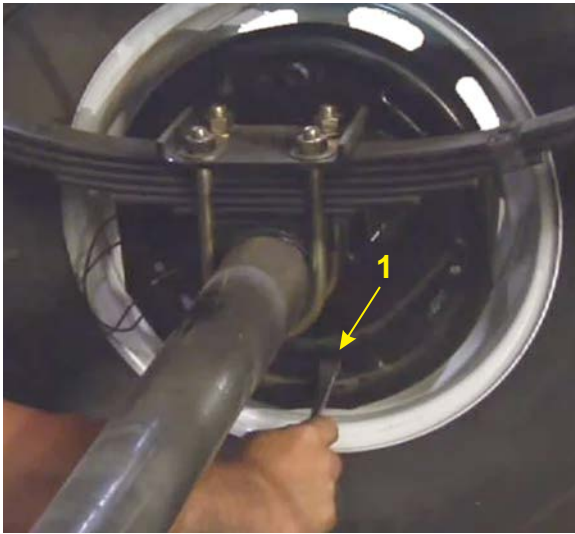

Figure 4-14 – Rotate Brake Adjuster
- e. Using a brake spoon or brake adjustment tool (1, Figure 4-14) turn the star wheel adjuster inside the brake chamber. The adjuster is typically located below the brake drum.